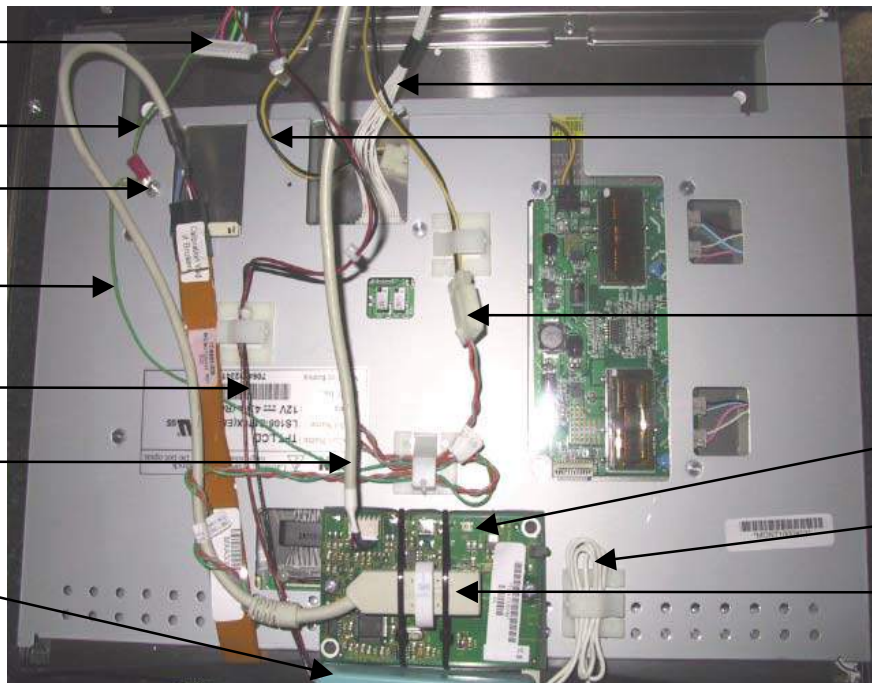
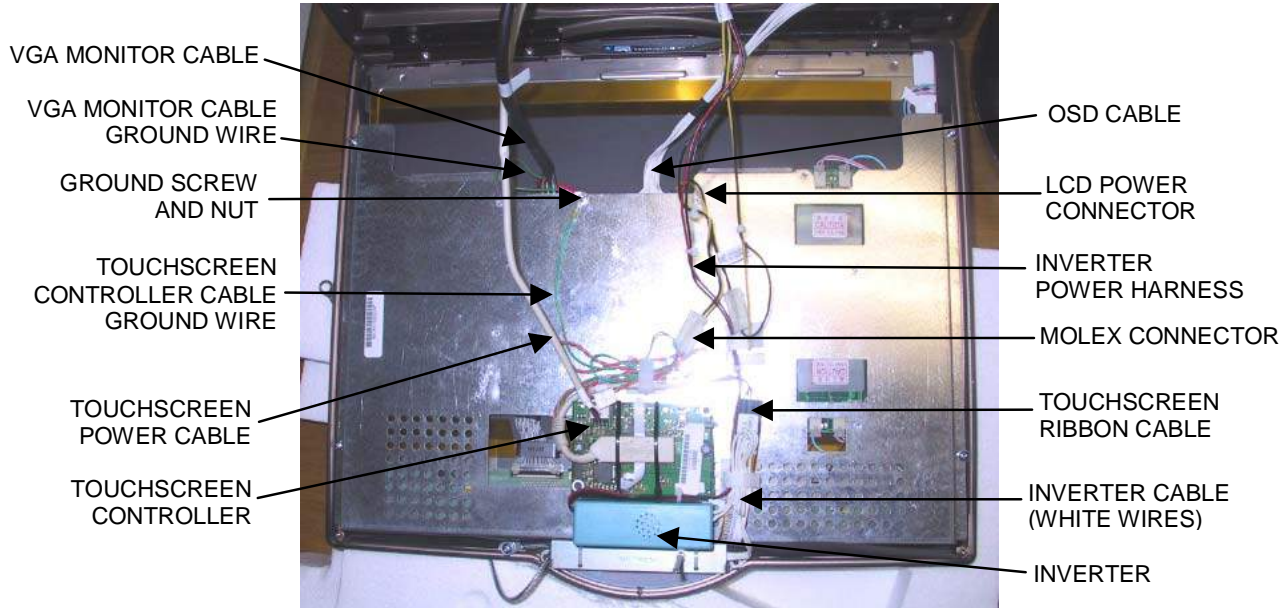

FIGURE 5 - REAR VIEW OF 17" MONITOR
FIGURE 6 - REAR VIEW OF 19" MONITOR
7. Disconnect the VGA connector from the monitor. Remove the screw securing the VGA and touchscreen controller ground wires to the monitor (17"), or the nut securing the VGA and touchscreen controller ground wires to the ground screw on the back of the monitor (19" & Widescreen). *Note: On the Aurora Widescreen this nut may secure only the VGA ground wire.* Disconnect the 14-pin OSD cable (white wires) and the LCD power connector (yellow & black wires) from the monitor. Refer to Figure 5 for 17" games, and Figure 6 for 19" and Widescreen games.
8. Disconnect the touchscreen power cable from the touchscreen controller, then disconnect the Molex connector, identified by the orange and gray wires (this does not exist on Aurora Widescreen systems). Refer to Figure 5 for 17" games, Figure 6 for 19" and Widescreen games.
9. Release harnesses from clamps; this may include the inverter cable, the inverter power harness, the Molex harness, the touchscreen controller cable, the touchscreen controller cable ground wire, the harness connecting the Molex connector to the power supply, and/or the touchscreen ribbon cable. Refer to Figure 5 for 17" games, and Figure 6 for 19" and Widescreen games.
10. For 19" and Widescreen games: Remove the inverter from the Velcro securing it to the LCD bracket (19") or touchscreen controller mounting plate (Widescreen) and carefully place it out of the way of the monitor assembly. See Figure 6.
If you are replacing the touchscreen: Remove the touchscreen controller cable from the touchscreen controller (see Figure 5).
5. *For 17" and 19" games:* Secure the inverter's cable and power harness under clamp(s) where necessary. See Figures 5 and 6.
7. *For 17" and 19" games:* Reconnect the touchscreen power cable to the touchscreen controller, then reconnect the Molex connector (orange and gray wires). Secure the Molex wires and the touchscreen ground wire under a clamp where necessary. See Figures 5 and 6.
8. Reconnect the 14-pin OSD connector and the VGA cable to the monitor. For 17" games, replace the touchscreen and VGA ground wires, and secure with 1 screw (see Figure 5). For 19" and Widescreen games, replace the touchscreen ground wire (where necessary) and VGA ground wire on the ground screw on the LCD bracket and secure with one nut (see Figure 6).